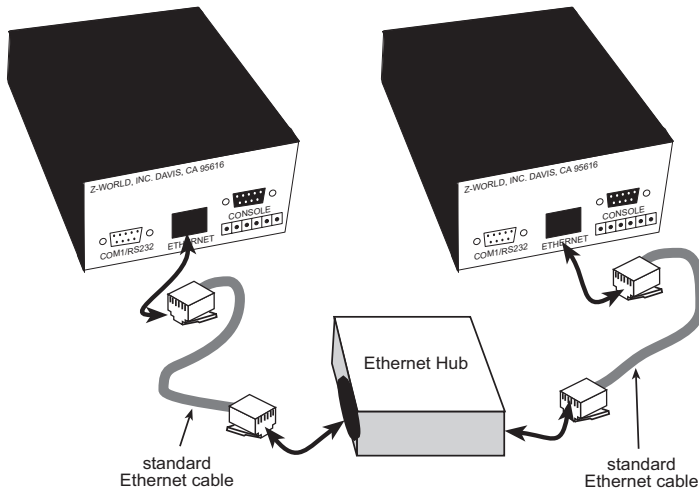

Figure B-2. Test Setup Using Ethernet Hub
3. Connect the RJ-45 Ethernet ports on both EM1000s to a port on the Ethernet hub using the Ethernet cables supplied with the Evaluation Kit. Figure B-2 illustrates the setup.